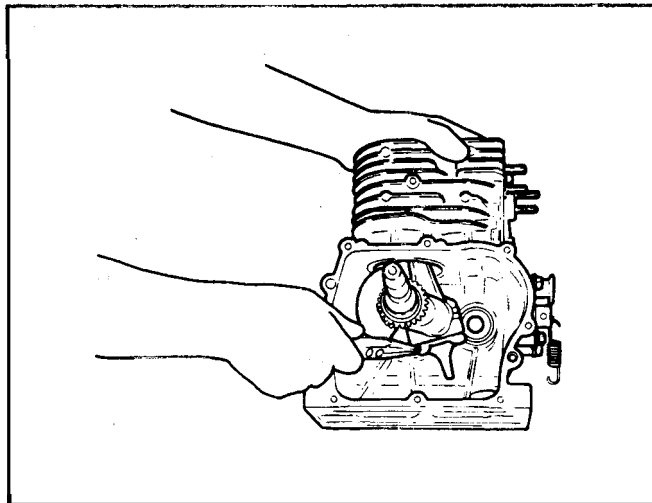

Figure 78
36. Straighten the locking tabs on the connecting rod nuts. See Figure 78.